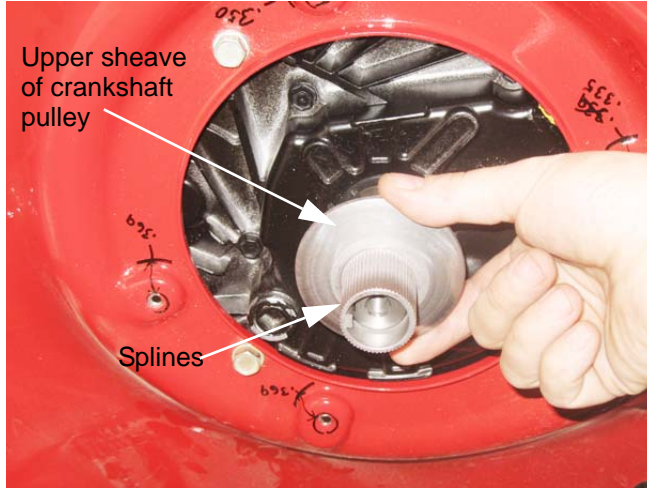

Figure 4.9
- 9a. The splines in both sheaves of the crankshaft pulley should be clean and smooth, so that they slide together easily. See Figure 4.9.